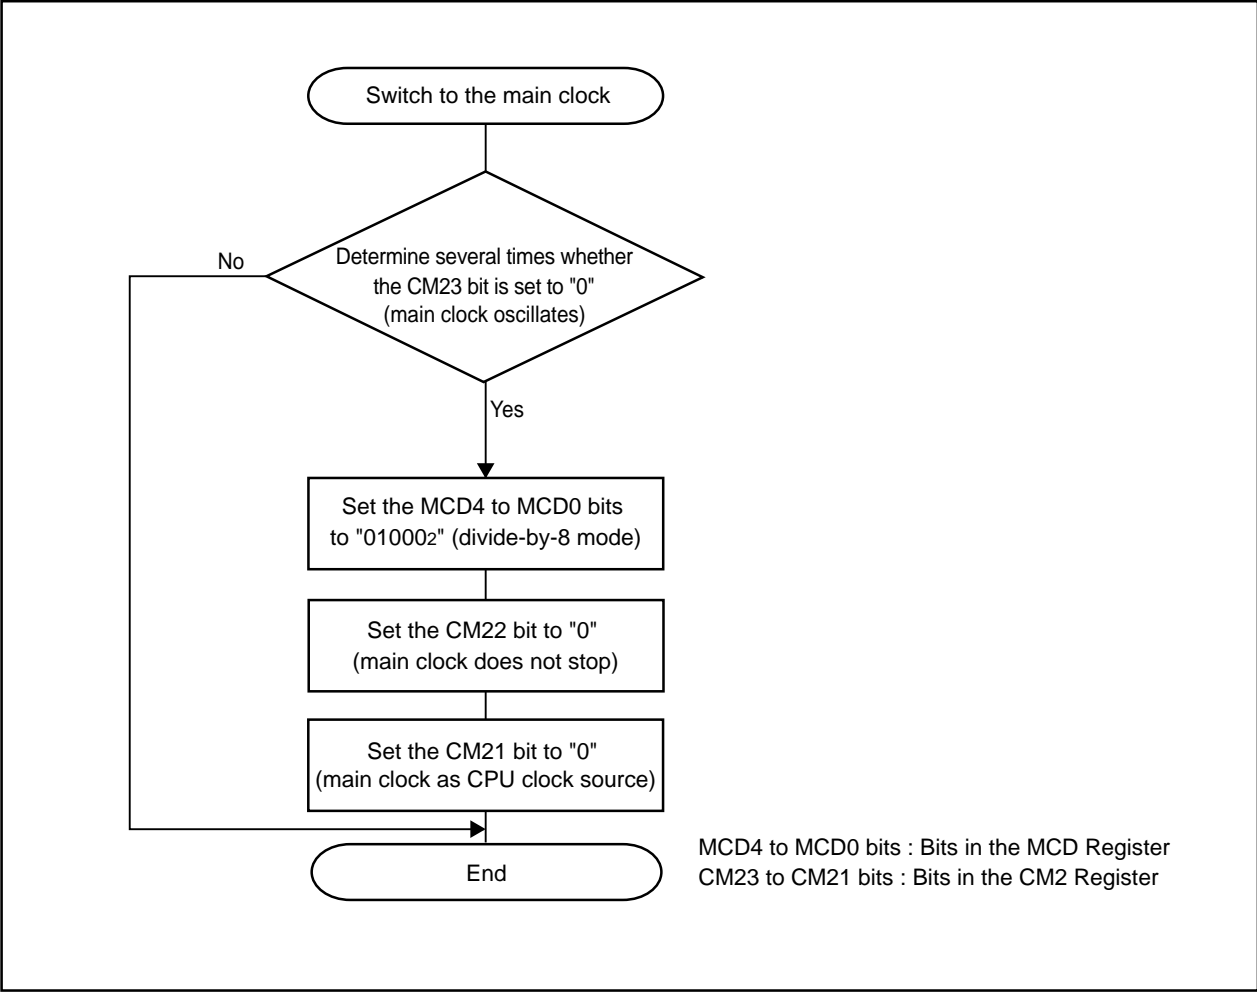

Figure 9.11 Switching Procedure from On-chip Oscillator Clock to Main Clock
- When the main clock resumes running after an oscillation stop is detected, set the main clock as clock source of the CPU clock and peripheral function clock. Figure 9.11 shows the procedure to switch the on-chip oscillator clock to the main clock.